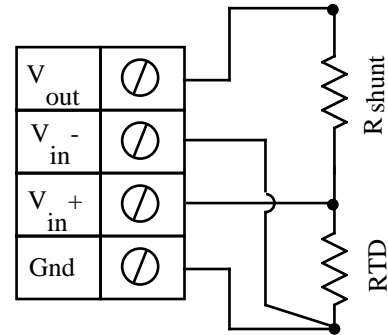

Fig 3.13 - Temperature Measurement (RTD) Voltage Divider Circuit
9. Wire your voltage source per figure 3.13, and refer to the steps at the beginning of this chapter for more information on how to set up your sensor. To reduce noise, 0.001 seconds of integration is often helpful (i.e. set the Integrate field in the Hardware setting area to 0.001).^{5, 10}